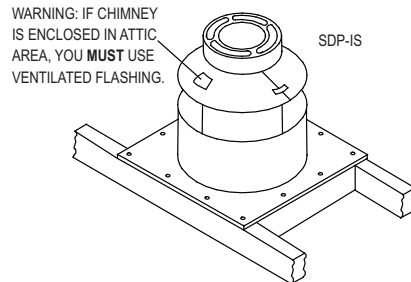

Figure 12
8. Install Attic Insulation Shield: Install the Attic Insulation Shield where the chimney passes into an attic. It's purpose is to prevent debris and insulation from getting too close to the chimney. **(Figure 12)**. An installed Attic Insulation Shield is 14 inches high. In attic areas where this shield won't fit, a Square Support Box, (which is available in heights up to 36 inches), can be used instead of an Attic Insulation Shield, provided it reaches through the roof; **refer to the Roof Supported Installation section on page 14**. If the chimney is fully enclosed through the attic, an Insulation Shield is not required, however, again, Ventilated Flashing must be used.
d. Nail the Insulation Shield to the top of the framed opening with at least two 8-penny nails per side. (**Figure 12**).